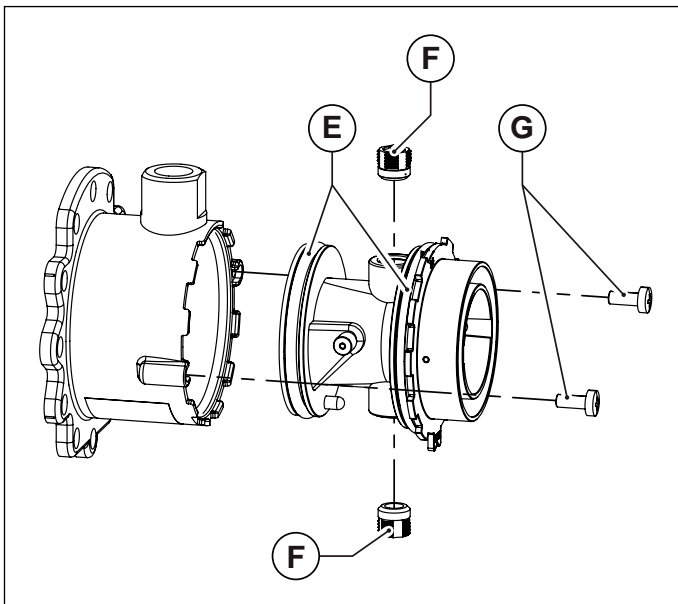

Fig. 34 Mixer plastic body
- Loosen the two retaining screws, and slide out mixer plastic body (see Fig. 34 Mixer plastic body).
- Using a 6 mm Allen wrench, loosen the two mixer nozzles (see Fig. 34 Mixer plastic body).
- To refit the plastic body (Venturi), insert it inside mixer and secure it in place with the retaining screws. Take care not to damage the O-rings assembled on plastic body ends (see Fig. 34 Mixer plastic body) and to respect the assembling direction (see Fig. 35 Assembling direction).
- Refit the reassembled mixer onto the fan with the socket head screws, making sure to insert the O-ring between mixer and fan (see Fig. 34 Mixer plastic body).